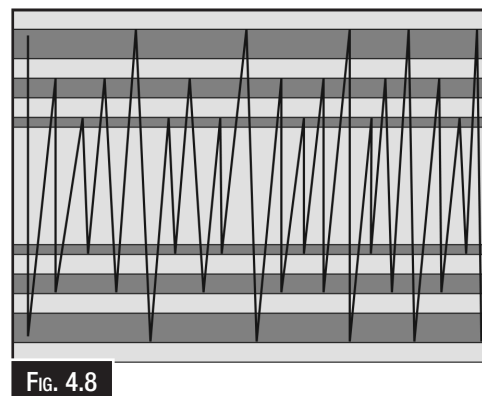

FIG. 4.8
4. Repeat Steps 1-3, as you move across the work piece, randomly alternating between outside, middle and inside lines. (Fig. 4.8)